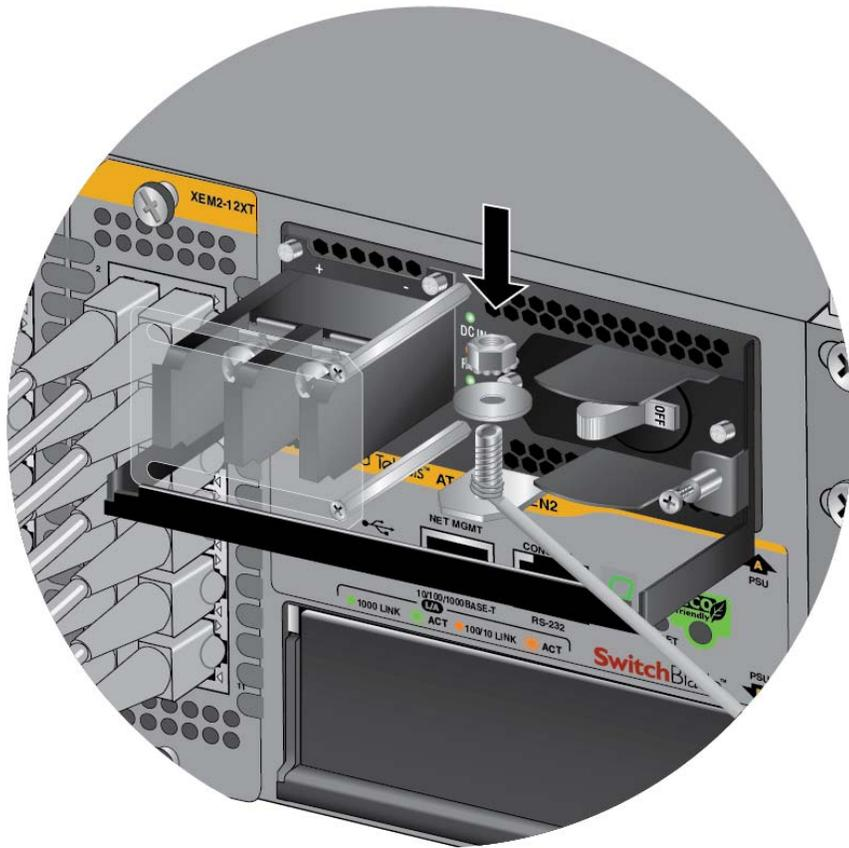

Figure 77. Securing the Bare Grounding Wire to the Grounding Post
5. Secure the wire with the nut and washer removed in step 2, and an 8 mm wrench, as shown in Figure 77 on page 130.